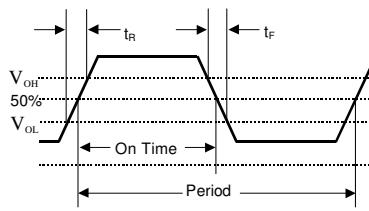
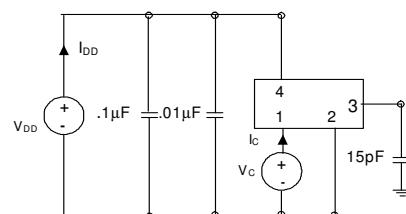

Figure 7: Output Waveform
Figure 8: Typical Output Test Conditions (25±5 °C)
2. Parameter is defined in Figure 7 and tested as shown in Figure 8.
4. Symmetry is defined as On Time/Period (Figure 7).